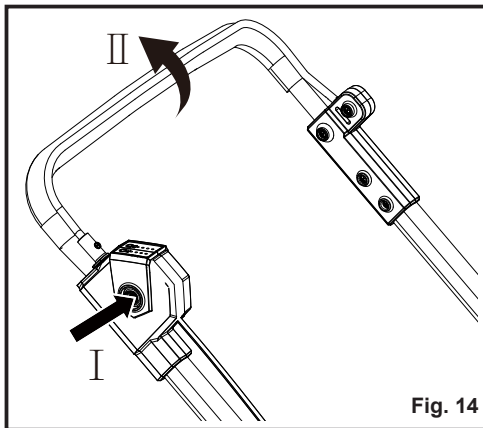

Fig. 14
1. To switch on, press and hold the safety switch button and gently pull the start/stop bale switch (Fig. 14). Once started, release the safety switch button.